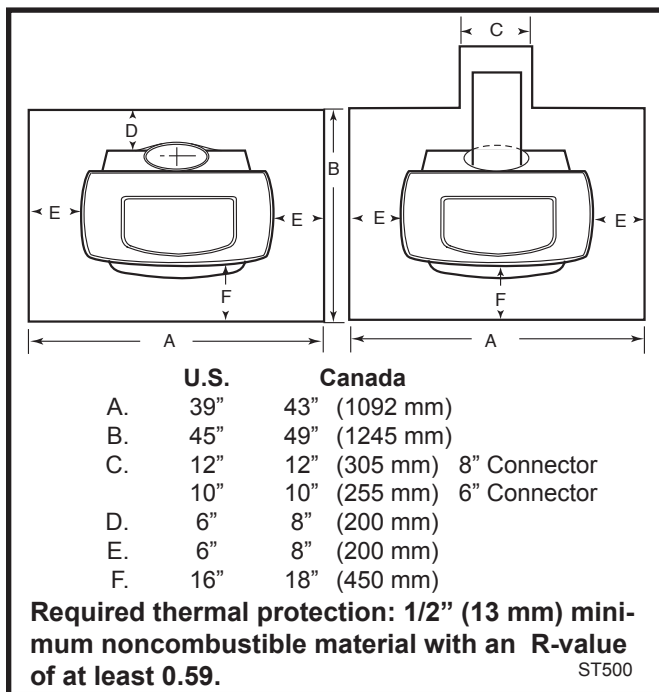

Fig. 12 Required floor protector dimensions for both top and rear-exiting stove.
U. S. installations the floor protector is required under the stove and must extend at least 16" (not including the ash lip) from the front of the stove ("F", Fig. 12), and at least 6" from the sides and rear. ("D" and "E", Fig. 12) It must also extend under the chimney connector and 2" to either side. ("C", Fig. 12) For the 8" (203 mm) connector, the protector must be a minimum of 12" (305 mm) wide. For the 6" (152 mm) connector, the protector must be 10" (254 mm) wide. The protector must be centered under the connector.
In Canada: A noncombustible floor protector is required under the stove as well. The floor protector must extend 18" (450 mm) to the front ("F", Fig. 12), and 8" (200 mm) from the sides and rear. ("D" and "E", Fig. 12)
Floor protection also must extend under the chimney connector and 2" (51 mm) to either side. ("C", Fig. 12) For the 8" (203 mm) connector, the protector must be a minimum of 12" (305 mm) wide. For the 6" (152 mm) connector, it must be at least 10" (254 mm) wide. The protector must be centered under the connector.